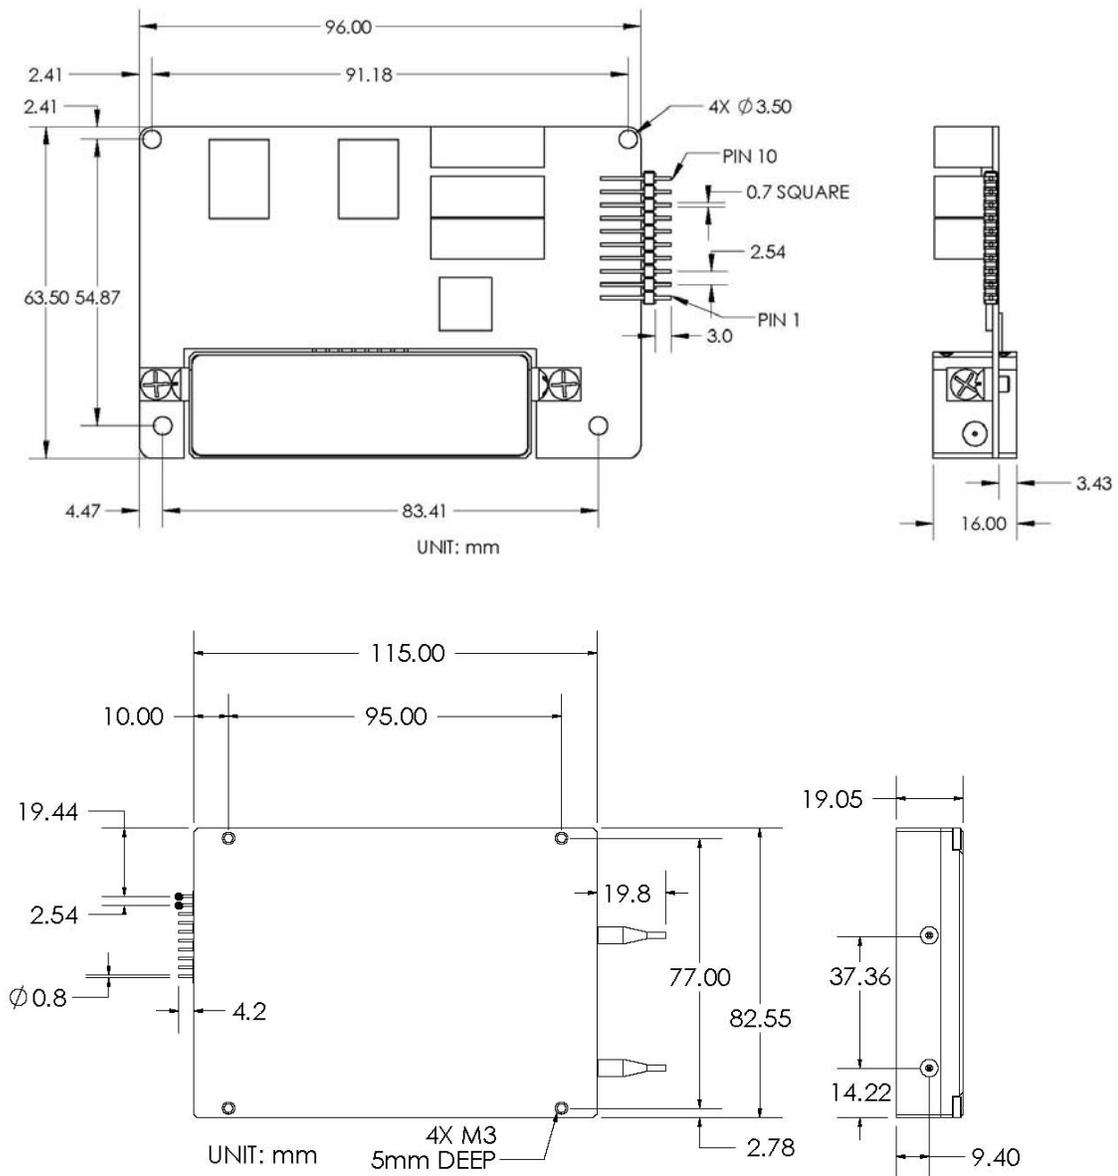

Figure 4 PSM-002 mechanical drawings
Figure 4 shows the mechanical drawings for the PSM-002 without (top) and with (bottom) enclosure. In addition to the module dimensions, the drawings also include the size and location of mounting holes, and the size and pitch of electrical connector pins. While the pinout is the same for the PSM-002 with and without enclosure, the pins are different. The version with enclosure uses round pins, while the one without enclosure uses square pins.
1. If mounting the PSM-002 to another board or enclosure, refer to Figure 4 for locations and sizes of mounting holes.